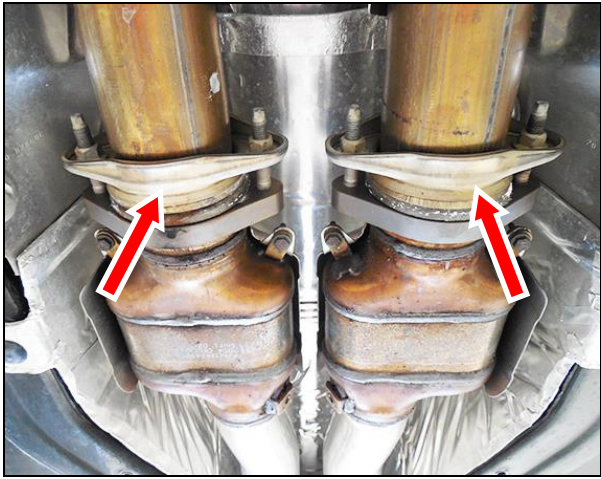
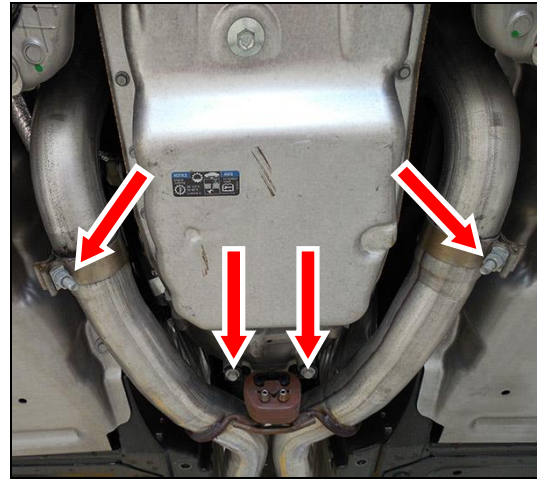

Figure 4
Figure 5
6. Support the X-pipe and remove the (x4) 15mm nuts at the flanges on the down pipes (**Figure 4**). Loosen the 15mm clamp bolts at the slip joint connecting the X-pipe to the over-axle pipes (**Figure 5**). Remove the (x2) 13mm bolts at the center support hanger on the X-pipe (**Figure 5**). Remove the X-pipe from the over-axle pipes.
7. Install the X-pipe with cats onto the down pipes and tighten the (x4) 15mm nuts to allow for adjustment. Support the X-pipe assembly. Install the center support hanger assembly and tighten the (x2) 13 mm bolts (**Figure 5**). Adjust the position of the cats if necessary and tighten the (x4) 15mm nuts (**Figure 4**). Install the 3" Torca couplers onto the outlet of the X-pipe with the bolts towards the transmission and the nuts facing down.